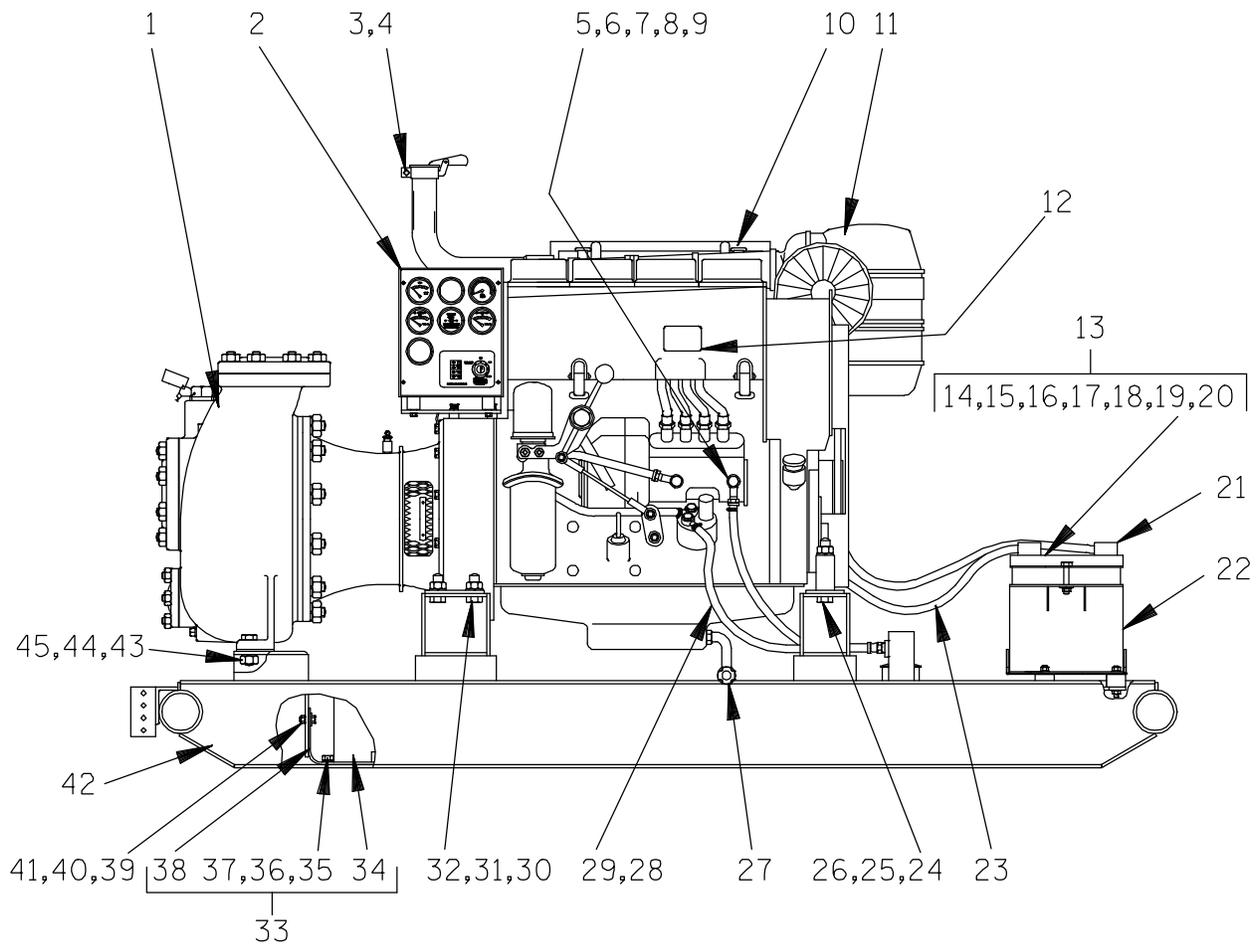

Figure 1. 04B3-F4L Pump Model Assembly
This pump requires little service due to its rugged, minimum-maintenance design. However, if it becomes necessary to inspect or replace the wearing parts, follow these instructions which are keyed to the sectional views (see Figures 1, 2 and 3) and the accompanying parts lists.
Remove the suction and discharge lines. See Figure 1, and remove the hardware (45, 46 and 47) securing the casing to the base (44). Remove the nuts (28) and use a suitable hoist and sling to separate the pump casing and gasket (30) from the seal plate and intermediate.